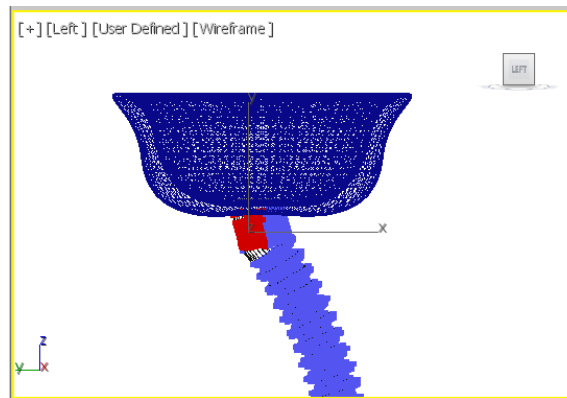

Figure 15-71 The vertices of duct aligned in the Left viewport
15. Convert *duct* into editable poly and select the **Vertex** sub-object level. Next, move and rotate its vertices to align with *washbasin* in the Left viewport, as shown in Figure 15-71.